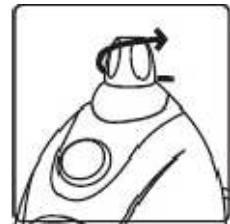

fig.4
2. Unscrew the fastening lock from the base of the steamer. (fig.4)